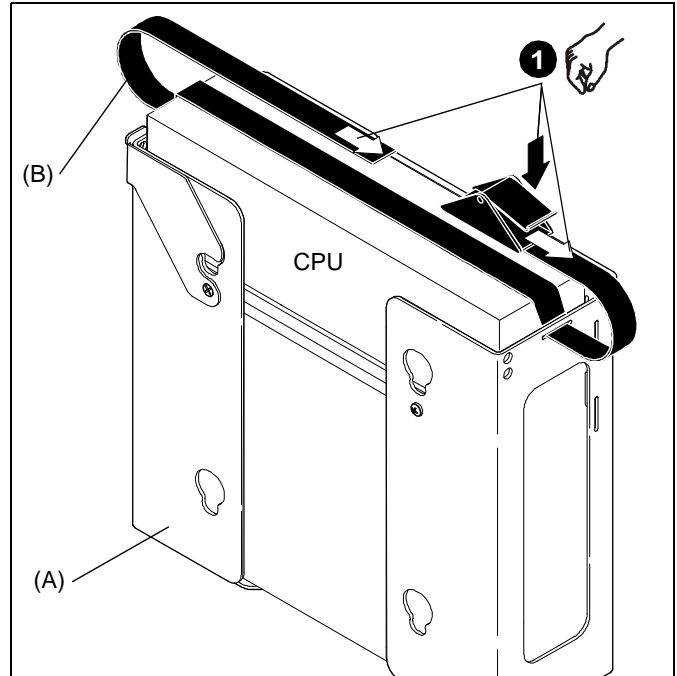

Figure 3
1. Install web strap (B) into CPU adapter, around CPU, and secure. (See Figure 3)